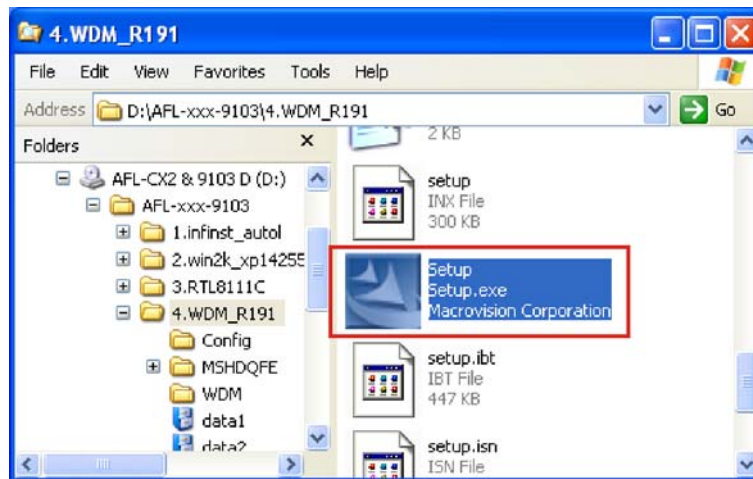

Figure 6-18: Audio Driver Setup File
Step 2: The browser window opens (Figure 6-18).
Step 3: Double-click the **Setup** icon to start the audio driver installation wizard (Figure 6-18).